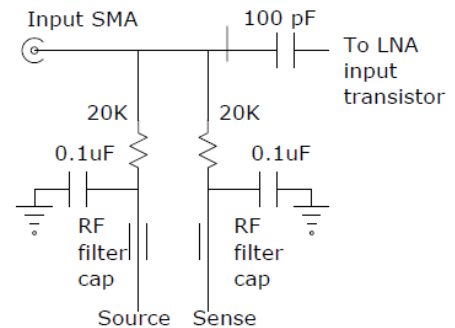

Figure 1. Bias Tee Schematic
As an option, the amplifier can be supplied with a DC bias tee for an external device connected to the amplifier input. The bias tee is formed by two (2) resistors connected to the input; as shown in Figure 1. One (1) resistor can be used as a source of current and the other senses the voltage across the external device. Voltages applied to the bias tee have a small effect on amplifier operation. At 12 K, 20 K Ω resistors increase noise by 0.5 K.